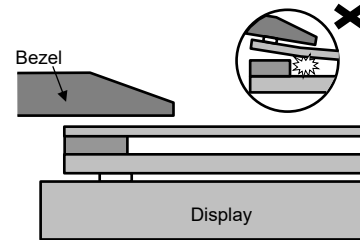

Fig.8
h. Mounting Touch Screen (Fig.8)